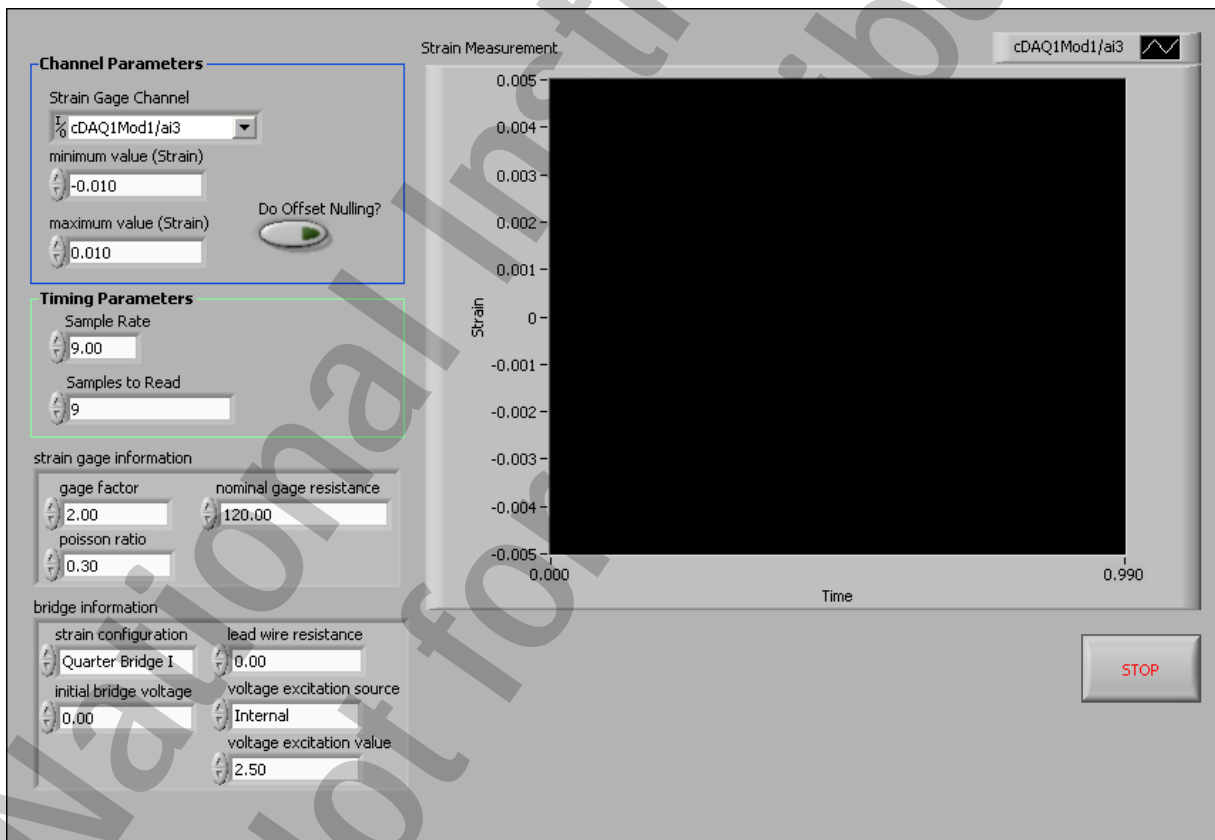

Figure 7-5. Strain VI Front Panel
5. Arrange the controls on the front panel in a logical manner, as shown in Figure 7-5.